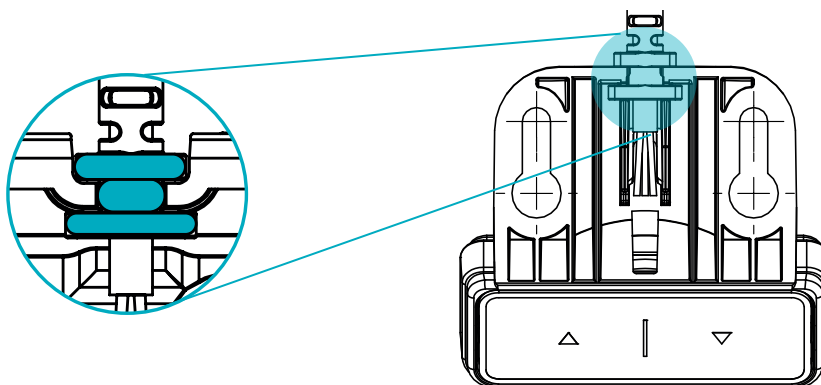

Fig. 6: Inserting the TOUCHbasic-DN Strain Relief
2. Insert the Strain Relief into the designated slot on the Handset (Fig. 6).
1. Use a milling cutter or similar to mill the cut-out. The dimensions for the milled cut-out are shown in Chapter 5.2.4 (Fig. 6).